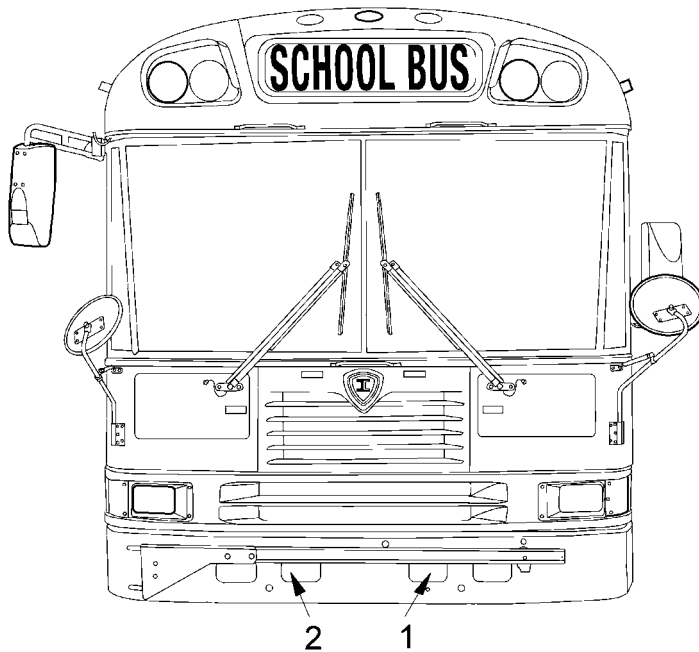

Figure 1 Arrows Indicate Access Openings
1. The transmission cooler jumper hose fittings are visible through the access openings in the front bumper (Figure 1).